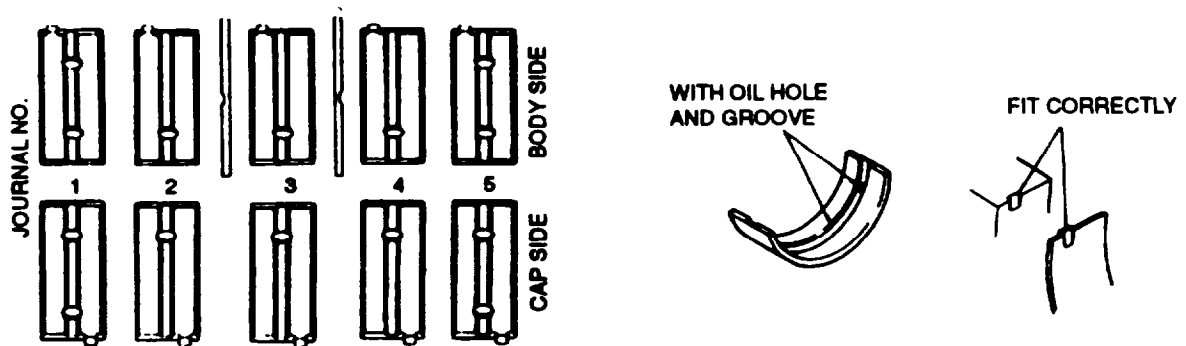

FIGURE 3-94. Crankshaft Bearing Location
- c. Refer to FIGURE 3-94 for correct bearing location at cylinder block bearing fitting arches and bearing caps.